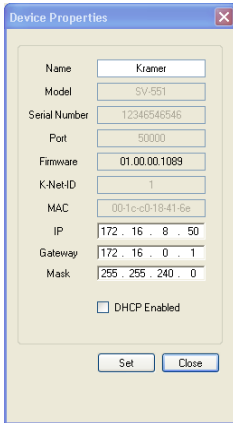
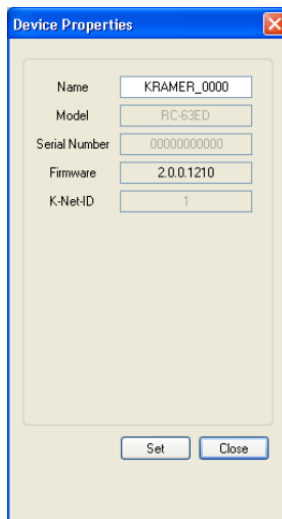

Figure 49: Device Properties Window
Figure 57: The Device Properties Window in the Standalone Mode
To connect a device, open the Device menu and click Properties. The Device Properties window Appears (see Figure 49). Figure 57 shows the Device Properties window in the standalone setup.
8. Upon completion, open the Device Properties window (see Figure 49) to make sure the firmware was upgraded².
Figure 57 shows the Device Properties window in the standalone mode: